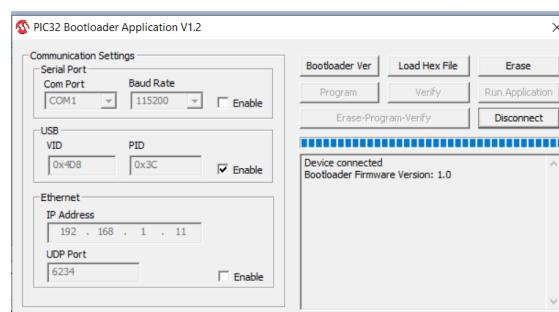

Fig. 8.6
10. Click on Connect.(Refer Fig. 8.6)